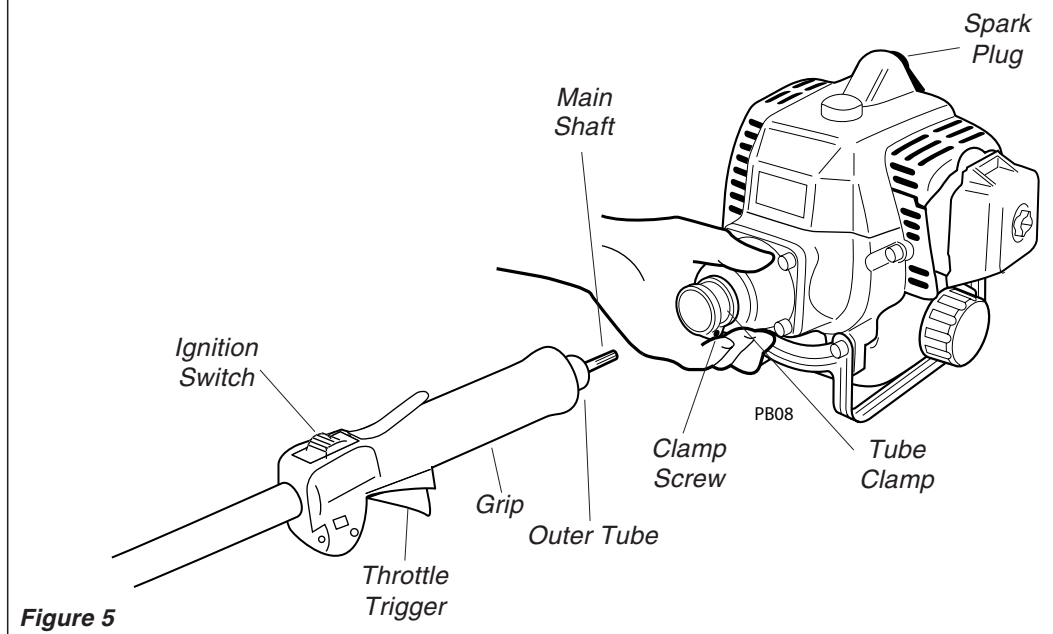

Figure 5
1. Place the powerhead on a clean, flat surface, spark plug facing up. See Figure 5.